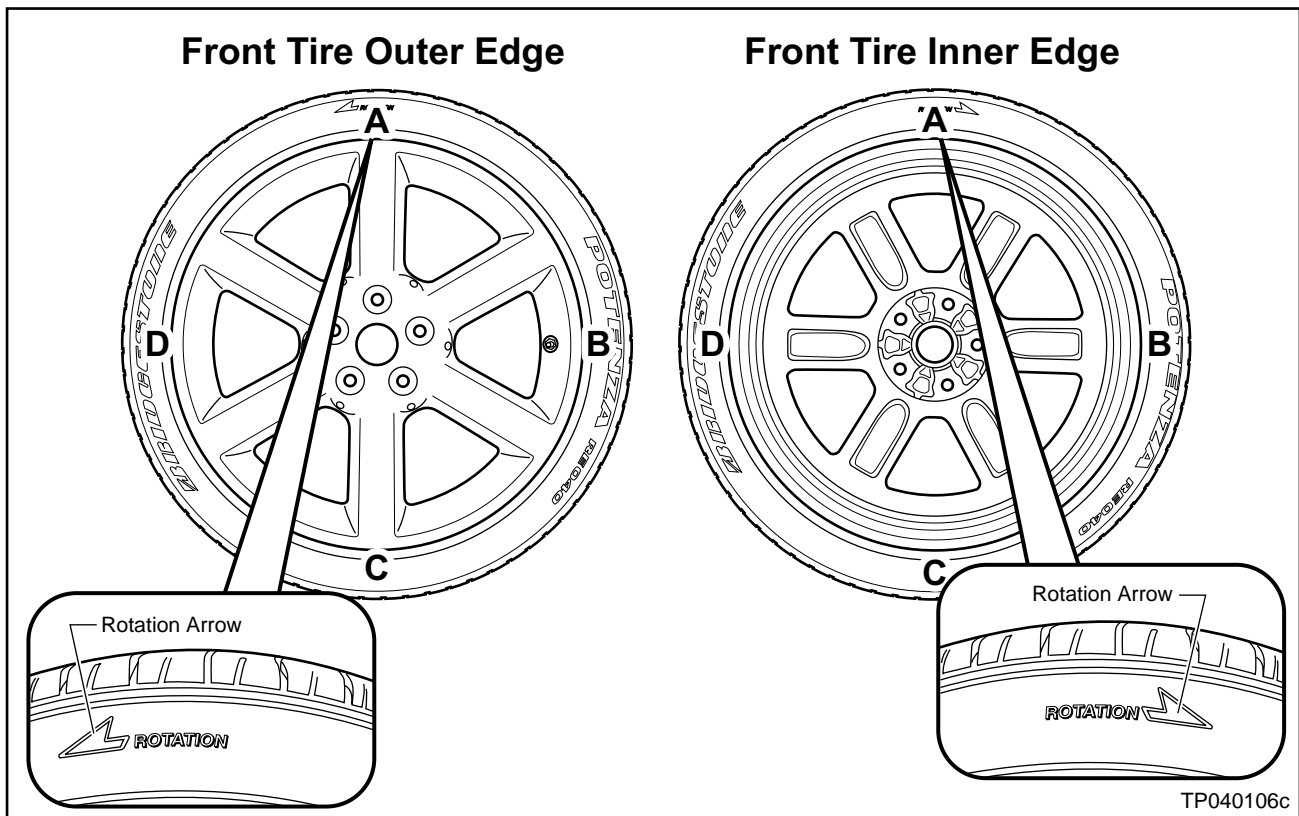

Figure 2
A. Use the chalk to mark the inner and outer tire sidewalls in four locations (each side). See Figure 2 below.